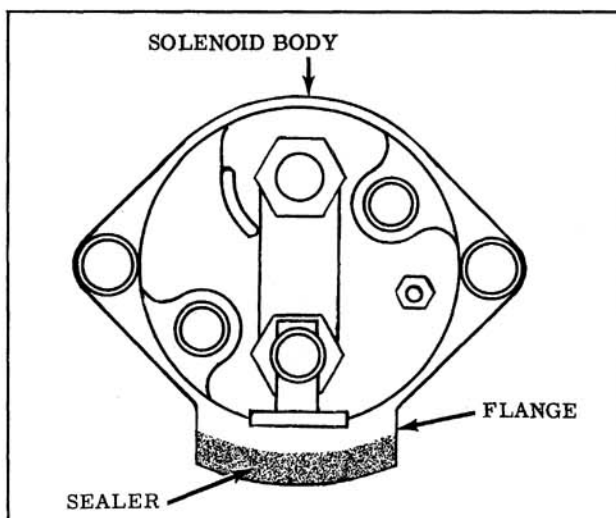

Fig. 13-58 Sealing Solenoid Housing
5. Apply sealer, Part No. 1050026 on solenoid flange as shown in Fig. 13-58.